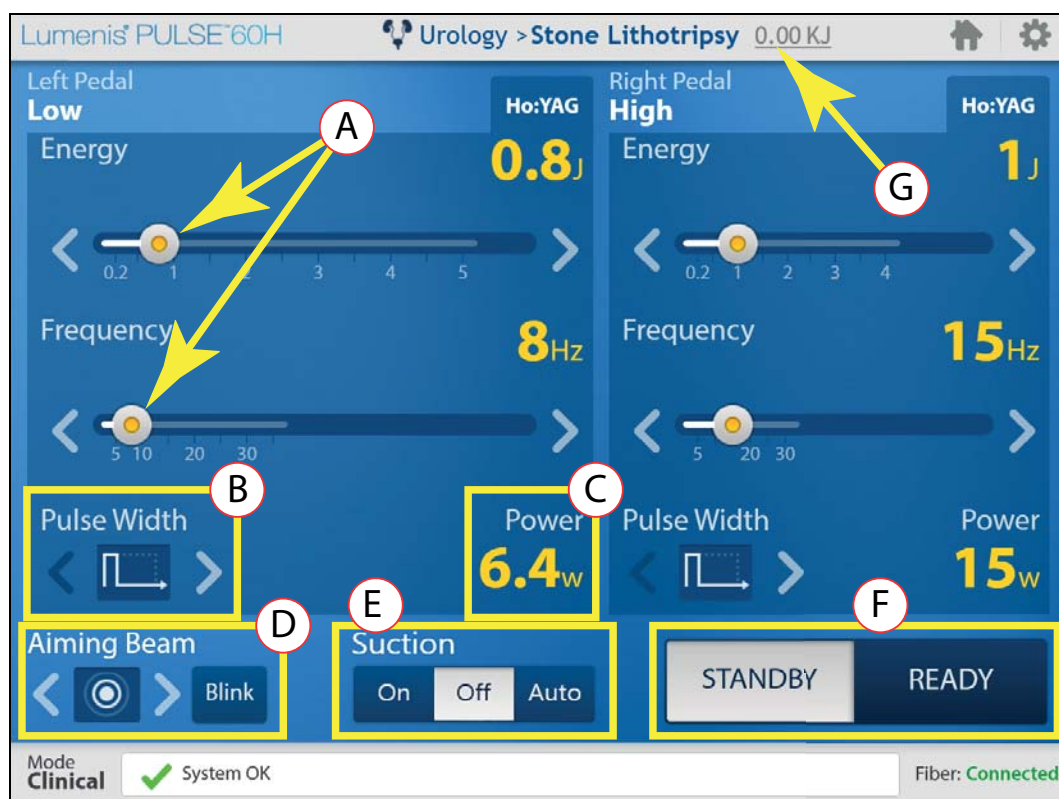

Figure 28: How to Change Treatment Settings
- Refer to Figure 28: drag the slide bar buttons (A) or press the arrows to adjust the **Energy** and **Frequency** settings.
- Press the < or > button (B) to toggle the **Pulse Width** between **Short**, **Medium** or **Long**.